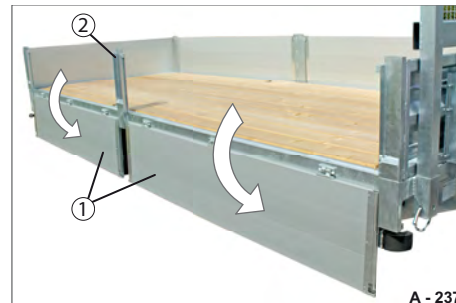

Fig. 122 Platform gate, two-piece, folded down
- Fold down the platform gates (Fig. 122/1) one after the other. The middle post (Fig. 122/2) remains inserted in the post pocket.